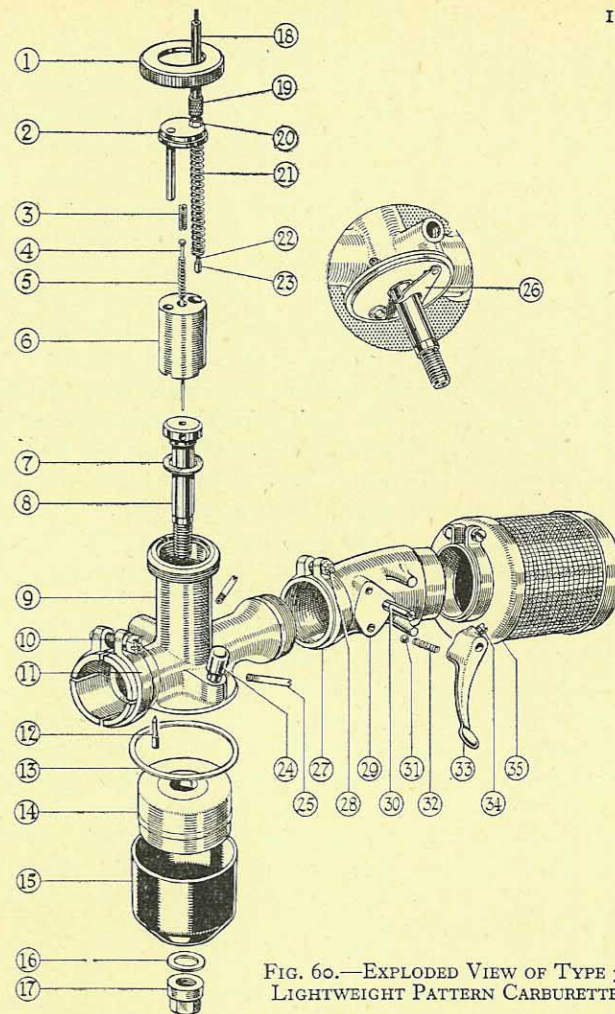

FIG. 60.—EXPLODED VIEW OF TYPE 3/1 LIGHTWEIGHT PATTERN CARBURETTER.
Remove cylinder lock rings (D) securing front exhaust pipes, with a C-spanner. Remove copper-asbestos washers (E). Remove pin holding front silencer to frame tube. Remove silencer as a unit. Remove petrol pipe by unscrewing union nut at tank end and banjo bolt at carburetter end. Release square-head bolt (10, Fig. 60) securing carburetter to inlet manifold, and tilt carburetter to bring the float chamber
outwards. Unscrew top lock ring (1, Fig. 60) and withdraw throttle and needle, care being taken not to damage the taper needle (4, Fig. 60). Remove carburetter complete with strangler and air cleaner by sliding backwards from inlet manifold.
The illustration, Fig. 60, clearly shows the construction of the carburetter. Instructions for tuning, dismantling, cleaning, etc., are given in Chapter VII.